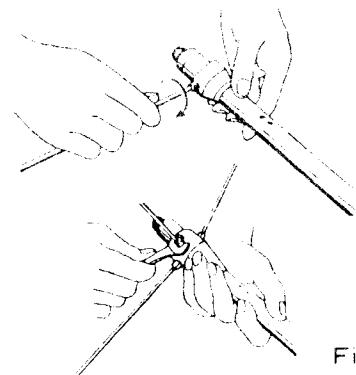

Fig. 2
- Attach three radial elements the bottom of lower vertical element. Grip nuts have to be fixed as shown in Fig. 2